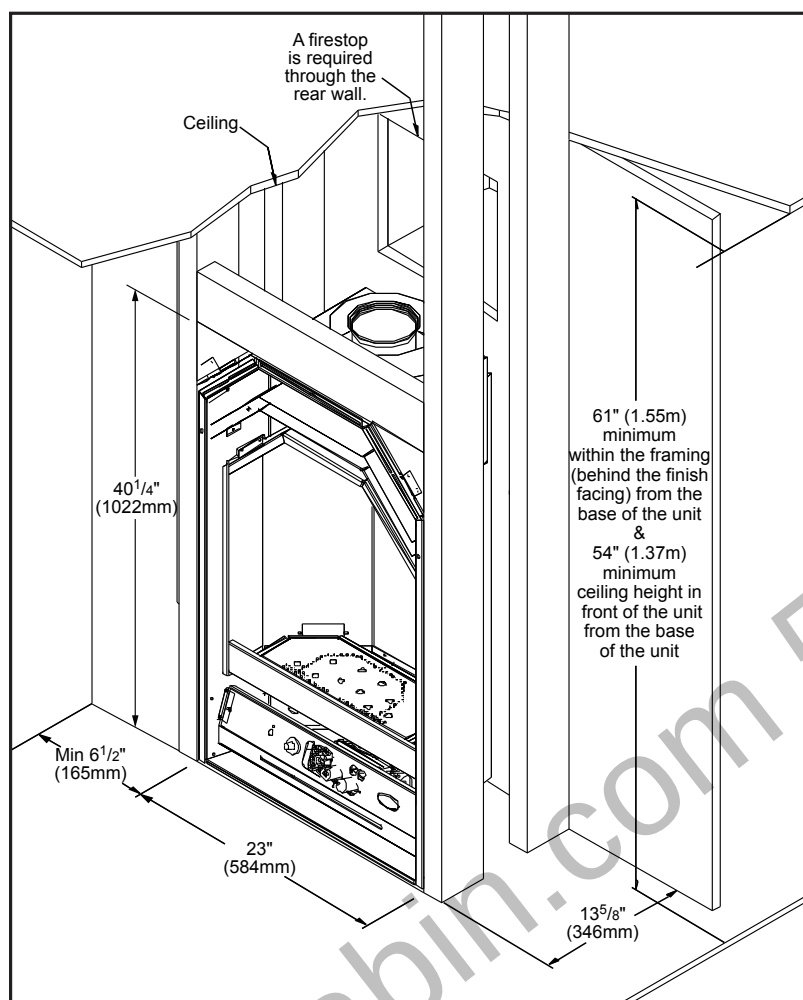
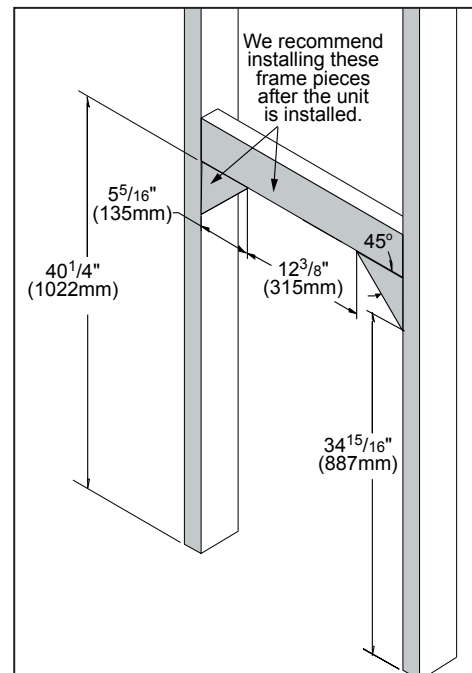

Figure 17. Dimensions for Framing the Firebox.
Figure 18. Dimensions for Top Framing the Firebox.
The fireplace can be located along a wall, raised or at floor level, or in a corner. There are specific framing measurements for each situation. The basic opening should have the dimensions shown in Figure 17 and Table 2. Refer to Figure 1 and Table 3 for the placement of the gas and electrical inlets. When the basic framing is done and the unit is installed the three (3) top pieces of the framing should be installed Figure 18.